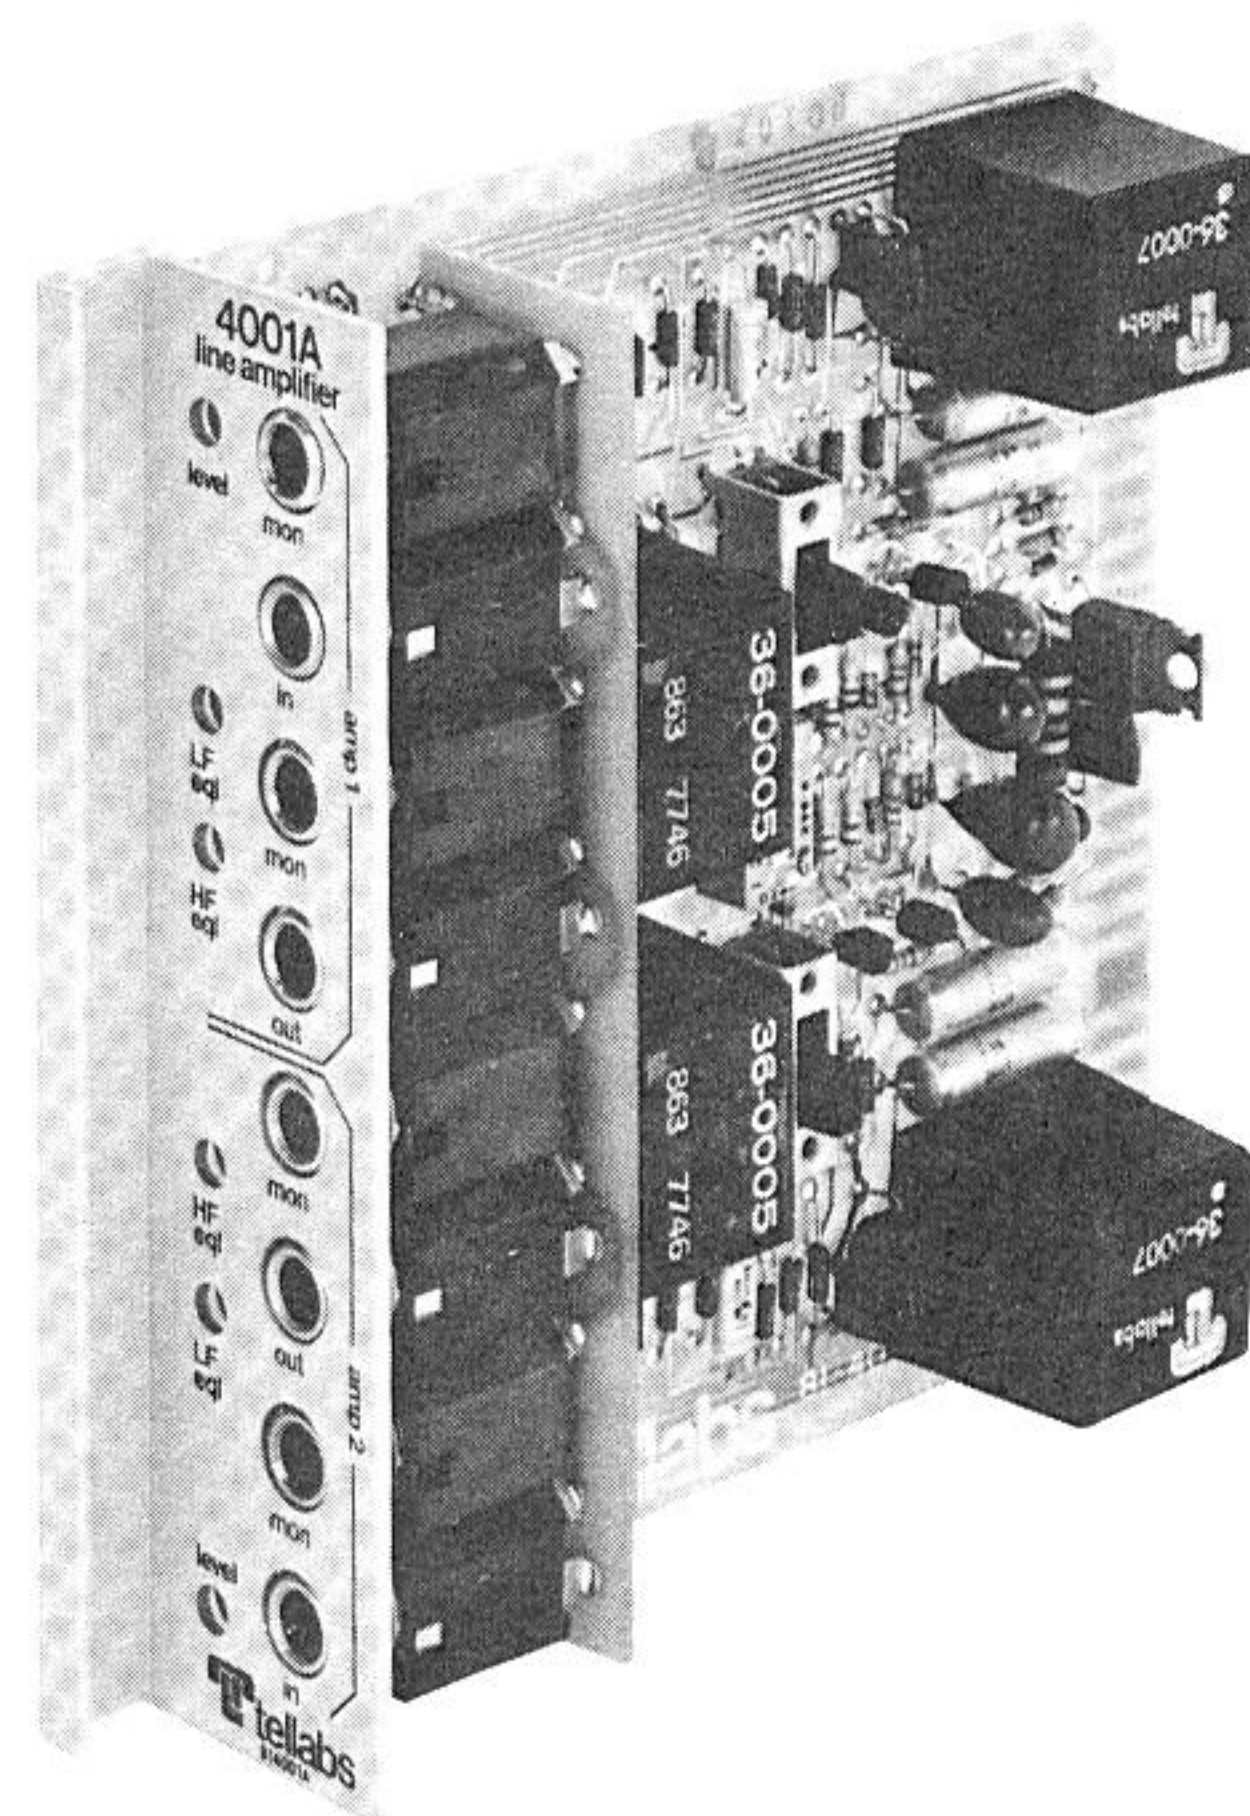

figure 1. 4001A Line Amplifier
1.01 The 4001A Line Amplifier (figure 1) provides two independent amplifier/amplitude-equalizer circuits, each with input and output impedance-matching transformers. The two independent circuits of the 4001A, referred to as "amp 1" and "amp 2", may be used in the transmit and receive channels of a 4wire voice frequency facility, or they may be used as unidirectional amplifiers in two separate circuits.